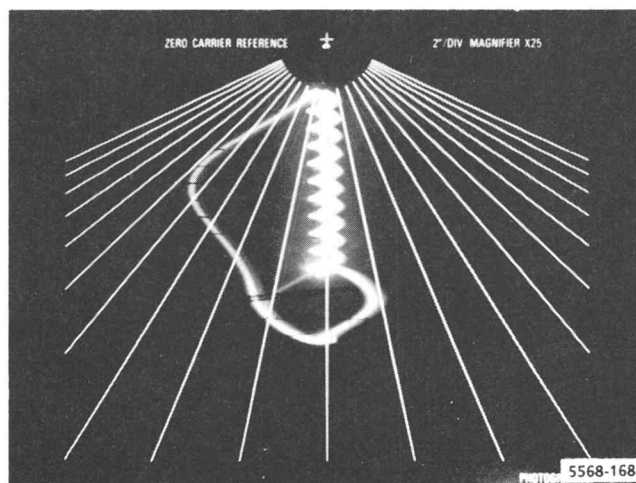

Fig. 4-51. Vertical phase display.
- ADJUST** C10 to its electrical midrange, observing the swing of phase display on the waveform monitor. See Fig. 4-51.
- ADJUST** L13 for a vertical phase display on the waveform monitor. See Fig. 4-51. Note that L21 and L25 on A27 do not have adjustable cores.
- ADJUST R60 on A28 for a vertical phase display. See Fig. 4-51.